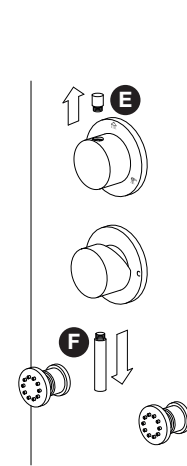

Fig.3
1. Unscrew the knobs E and F from the handles (see Fig.3).